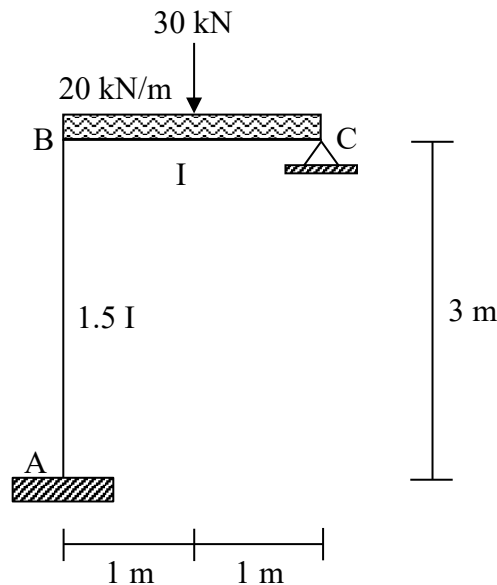

Figure B4(c) / Rajah B4(c)
- (c) A non-sway portal frame carries a uniformly distributed load and point load along member BC as shown in Figure B4(c). Given the value of fixed end moment (FEM) of portal frame as follows: